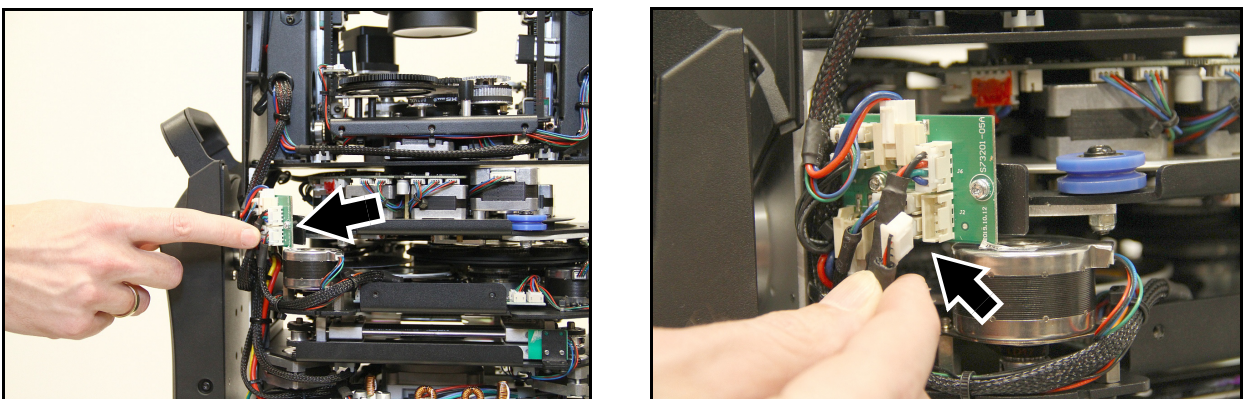

Figure 12: Disconnecting the effects module
4. See Figure 12. Locate the main effects module connector (arrowed) and disconnect it from the PCB on the left of the head. Let the connector and wireset hang free.